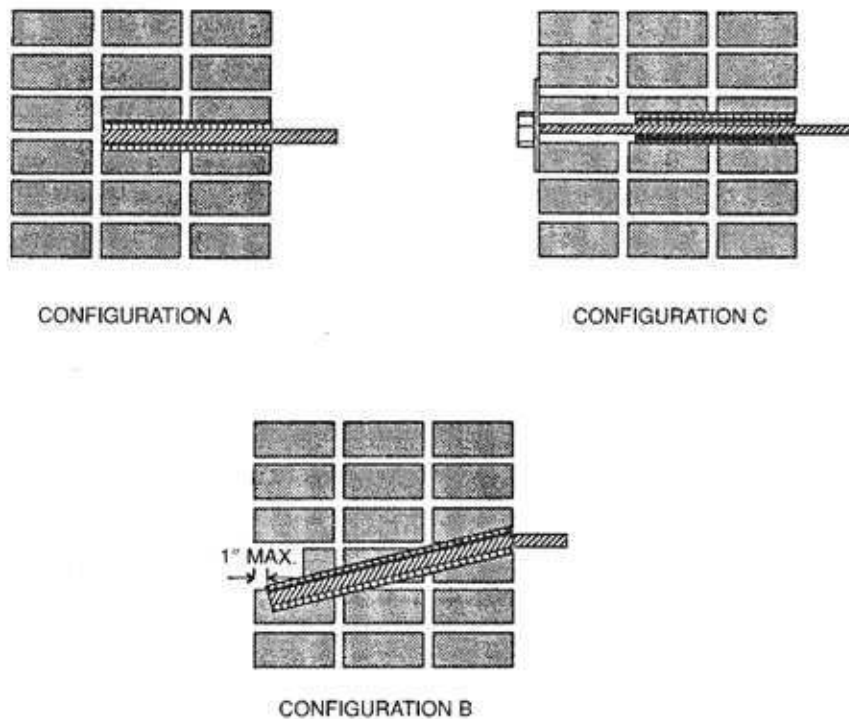

FIGURE 2
2.3.1 General: Anchors installed with Epoxy Tie ET or Epoxy Tie ETR Renovation Formula adhesives in existing unreinforced brick walls are designed to resist seismic and wind loads only. The existing unreinforced brick walls must have a minimum thickness of 13 inches (330 mm). The anchor is recognized for installation in the three configurations shown in Figure 2. The adhesive, threaded rod and screen tube are